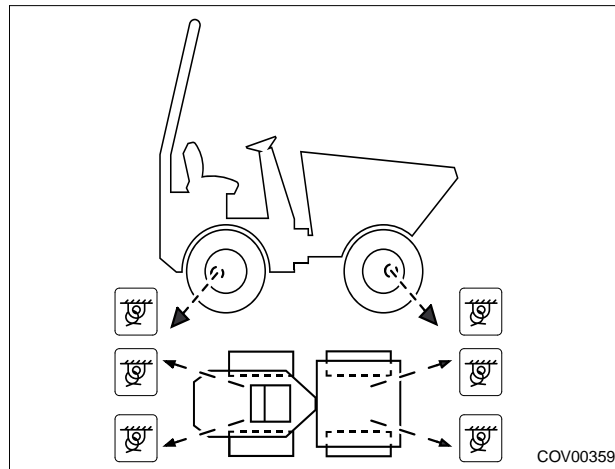
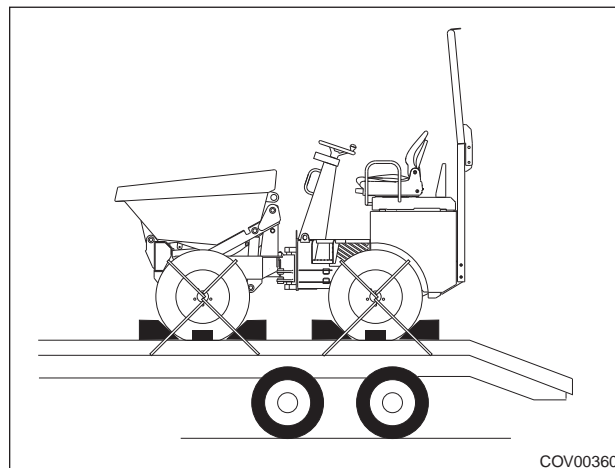

Figure 5.3. - Tie Down Points
Figure 5.4 - Alternative Tie Down Method
Tie down points are provided at the front and rear of the machine. The chains, straps, ropes etc. must be attached to the machine's tie down points, Figure 5.3. refers.
It is preferred to use the tie down points illustrated in Figure 5.3. however figure 5.4. illustrates an alternative tie down method.
- 6 Tie down using tie down points provided with suitable chains straps or ropes. Alternatively ropes may also be placed over wheels as shown in Figure 5.4.